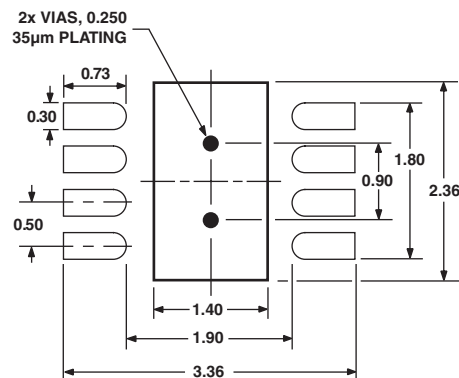

Figure 6. 3 mm x 3 mm LFCSP Pad Pattern
1. The pad pattern is given in Figure 6. The pad dimension should be followed closely for reliable solder joints while maintaining reasonable clearances to prevent solder bridging.